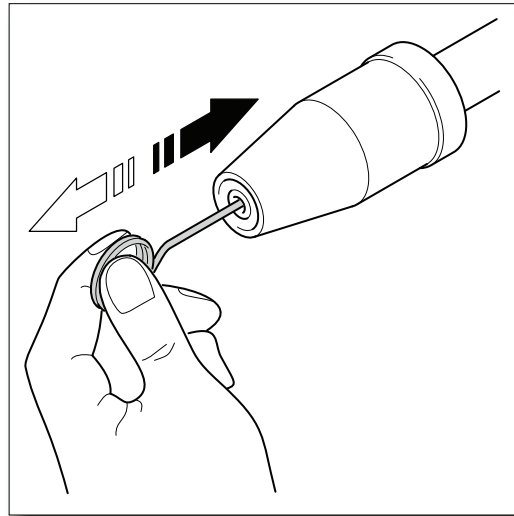

Fig. 22
- Using the nozzle tip cleaner provided (or an unfolded paper clip), insert the wire into the nozzle hole and move back and forth until debris is dislodged (Fig. 22). Back flush water through the nozzles using garden hose and highest pressure available (either standard water nozzle or use your thumb over the nozzle to create water pressure for back flush).